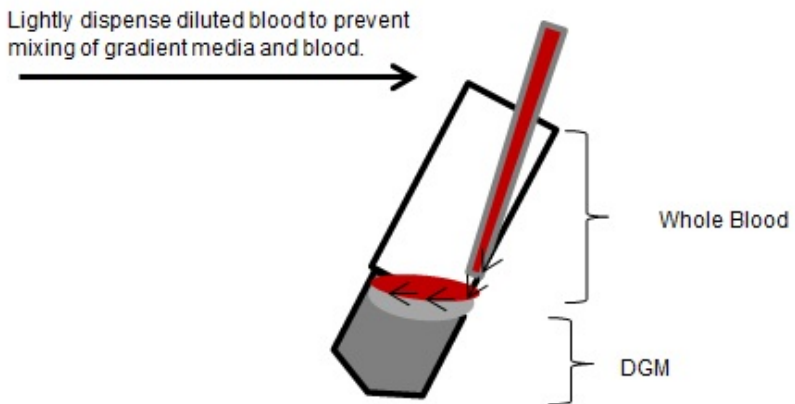

Figure 1. Illustration of conical tube held at an appropriate angle while blood is layered on top of Density Gradient Media.
2. Bring Density Gradient Media to room temperature and invert to mix. Add 20 mL Density Gradient Media to a sterile 50 mL conical tube. Hold the conical tube at a 45° angle, then place the pipette tip at the edge of the angled Density Gradient Media layer and slowly add 20 mL of diluted blood onto the Density Gradient Media (see Figure 1). Carefully handle centrifuge tubes with blood to prevent mixing of Density Gradient Media with diluted blood. Centrifuge tube at 400 x *g* for 30 minutes at room temperature.